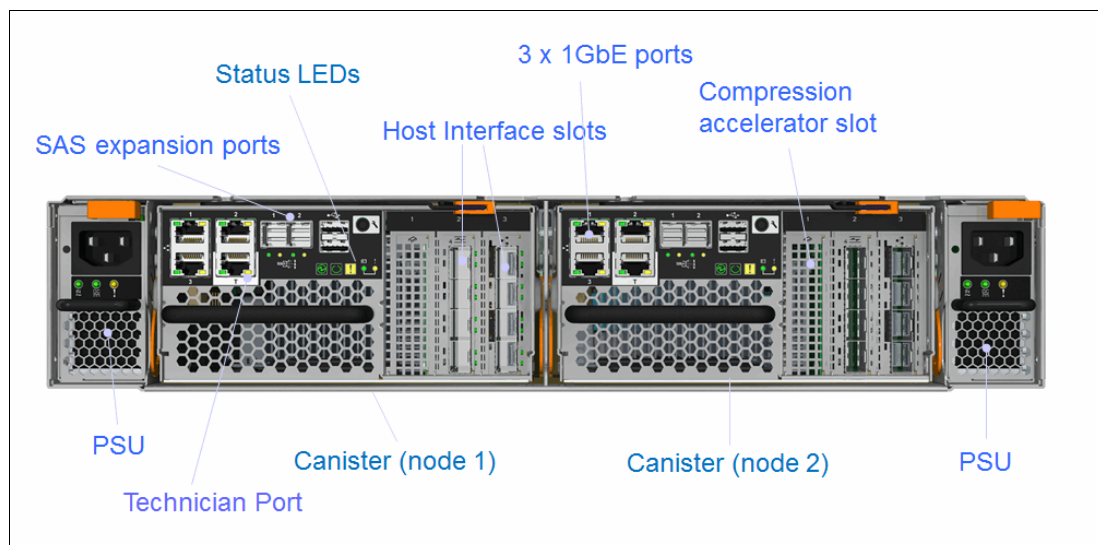

Figure 5-3 Rear of Storwize V7000 Gen2
1. The first step is to connect a PC or notebook (PC) to the Technician Port on the rear of the Storwize V7000 Gen2 node. See Figure 5-3 for the location of the Technician Port. The Technician Port provides a Dynamic Host Configuration Protocol (DHCP) IP address V4, so you must ensure that your PC is configured for DHCP. The default IP address for a new node is 192.168.0.1. You can, however, also use a static IP, which should be set to 192.168.0.2 on your PC or notebook.